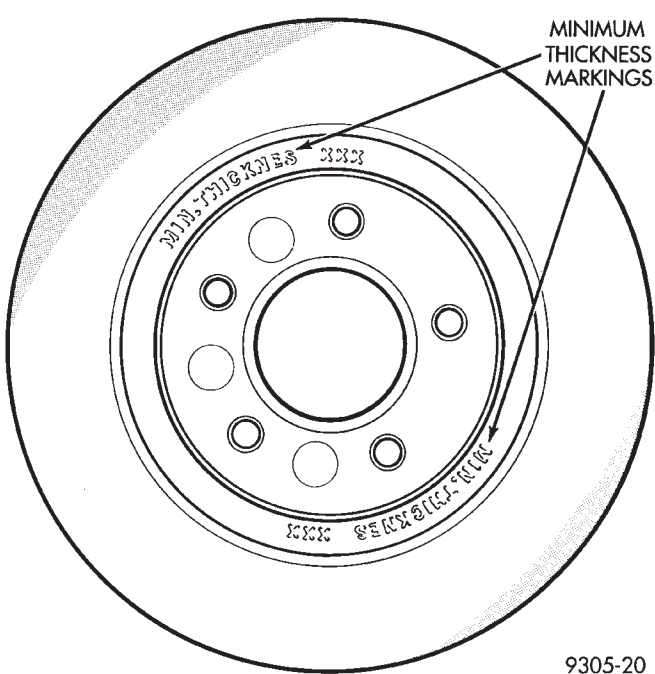

**Fig. 37 Minimum Brake Rotor Thickness Markings (Example)**
**NOTE:** All rotors have markings for minimum allowable thickness cast on an un-machined surface of the rotor (Fig. 37).